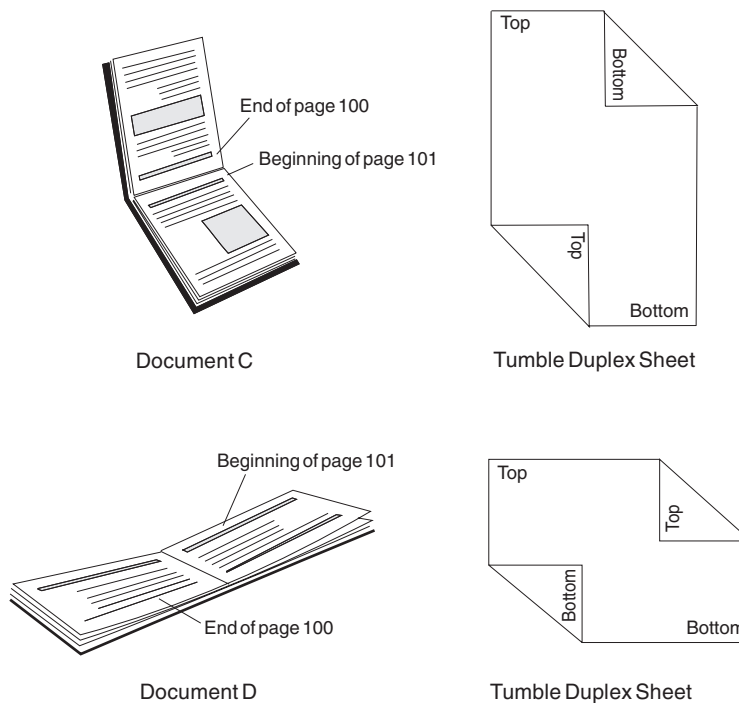

Figure 24. Duplex Documents C and D Specified as Tumble Duplex
- If the sheets are to be bound on the short edge of the paper, as Document C and Document D are in Figure 24 on page 58, specify *tumble duplex*.
Figure 24 on page 58 shows Document C and Document D printed with tumble duplex. Notice that the pages are printed in the *portrait position* for Document C and in the *landscape position* for Document D.